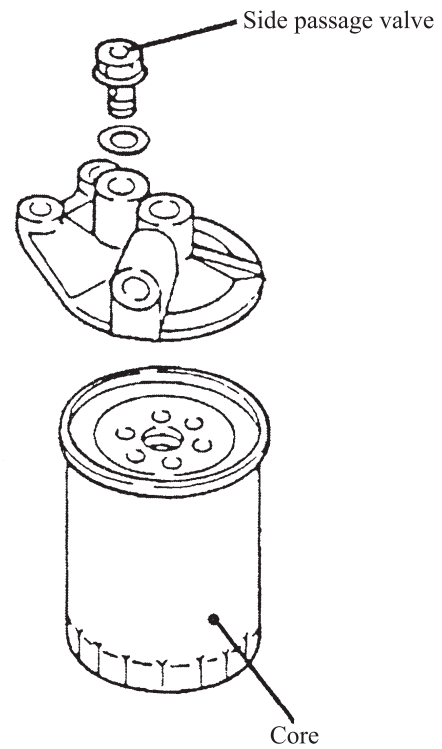

Fig.1-6
1.3.2 For fuel filter, See Fig.1-6